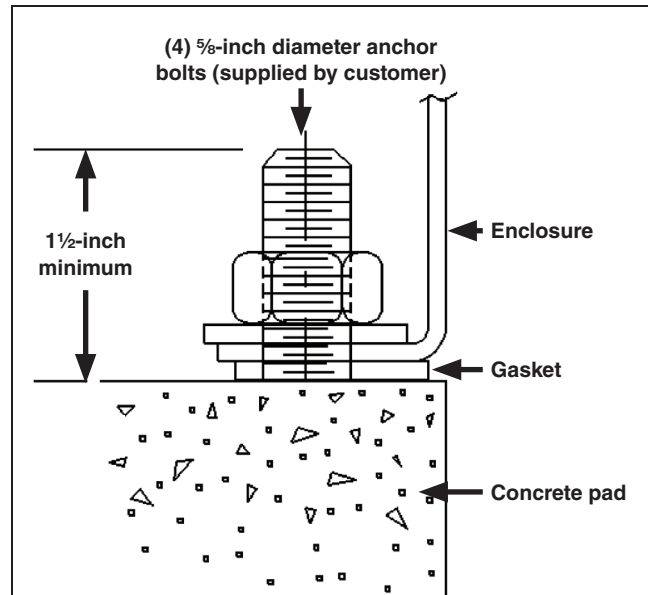

Figure 4. Anchor bolt detail.
- STEP 4.** The pad-mounted gear enclosure will be bolted directly to the mounting pad using user-furnished $\frac{5}{8}$ -inch diameter anchor bolts and supplied hardware. Refer to the anchor bolt detail in Figure 4. Anchor brackets and hold-down clamps must not be used.